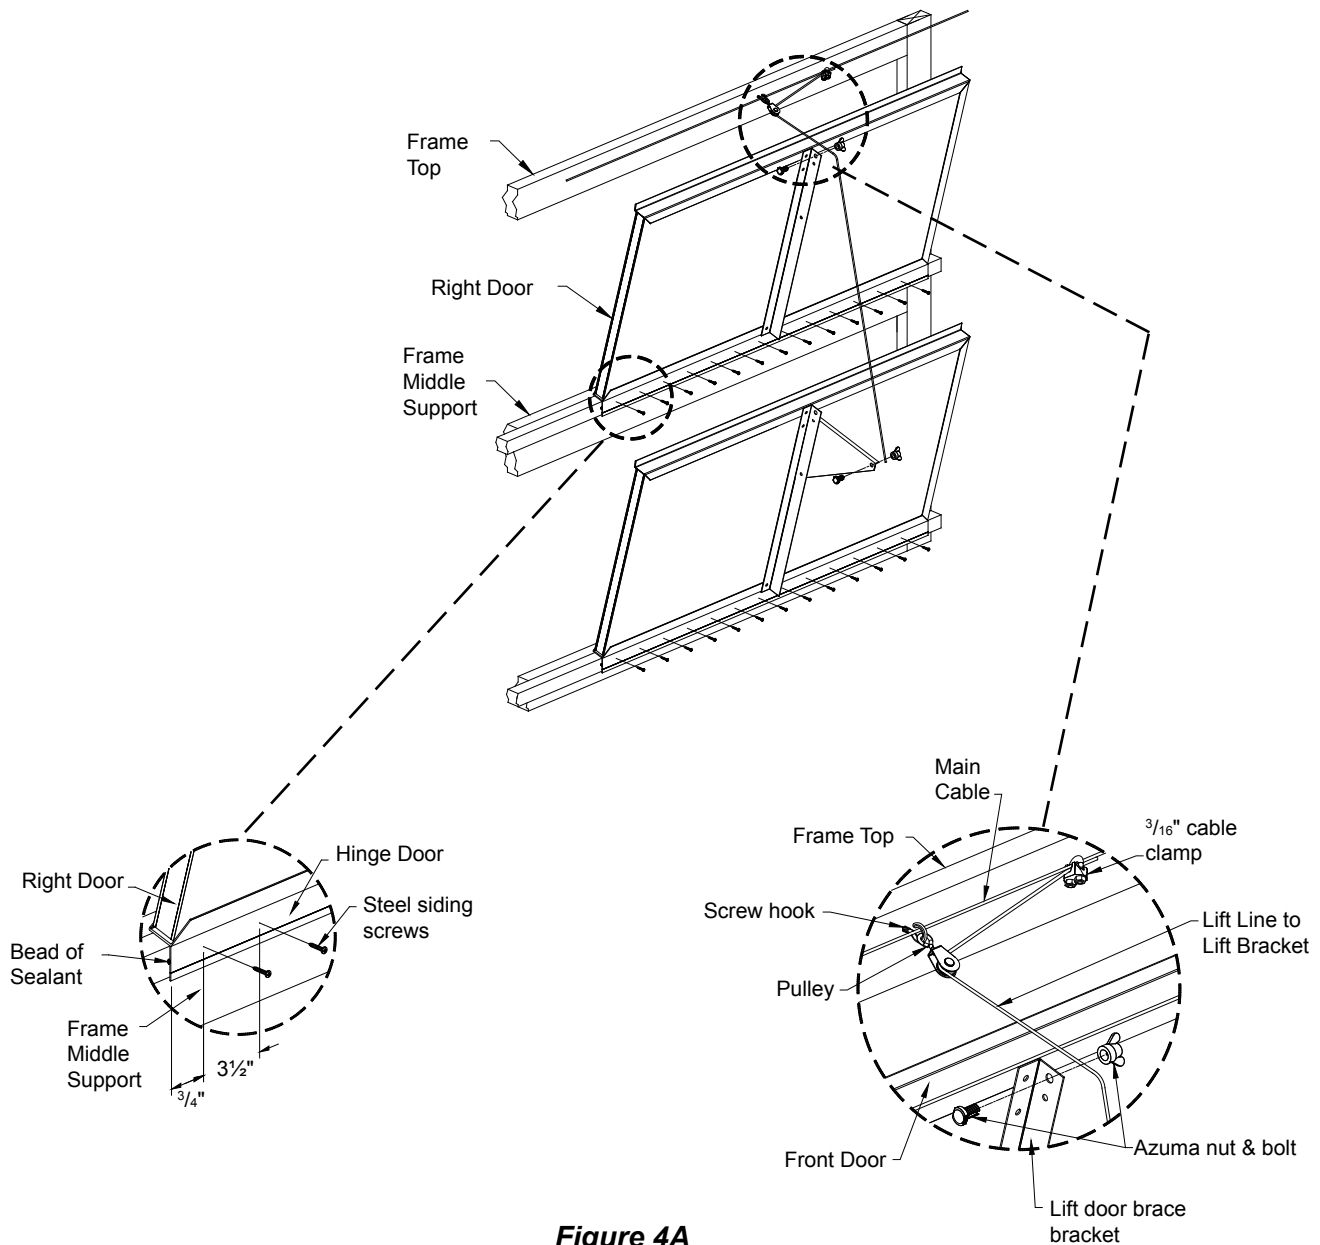
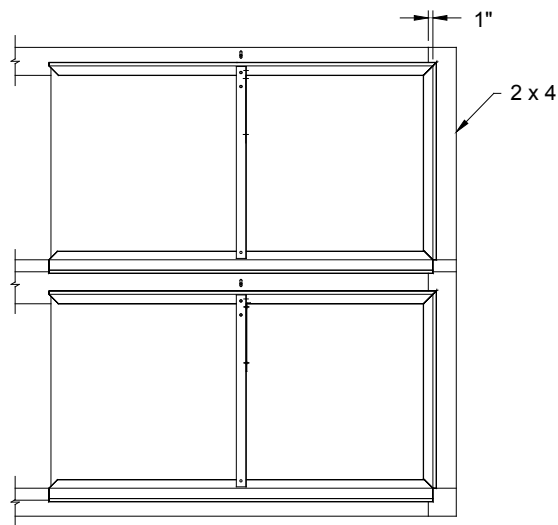

Figure 4A
Figure 4C
- 11) Always start with a right or left end door (48" long door from a completer kit). The end door seal should overlap the frame end 2x4 by 1.0" to provide a good seal **See Figure 4C**. Apply a bead of sealant to the 2x2, **See Figure 4A, 4B**. This will prevent leaks between the 2x2 and the hinge.
- 12) Place the door on the 2x2 in the closed position, overlapping the frame end by 1.0", and fasten in place with screws every 3.½", *not too tight*, along indented line in rigid hinge piece. Attach lift line to lift bracket, using the Azuma nut, to hold the door in the open position. Use the same procedure for top and bottom end doors. **See Figures 4A, 4B, 4C**.